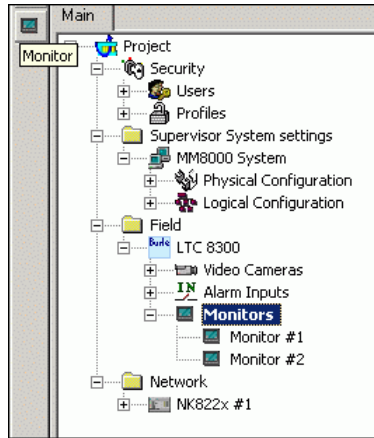

Fig 29 Adding monitors to Philips/Burle switcher
4. Select the sub-nodes monitors and add the monitor nodes (→ see Fig 29).